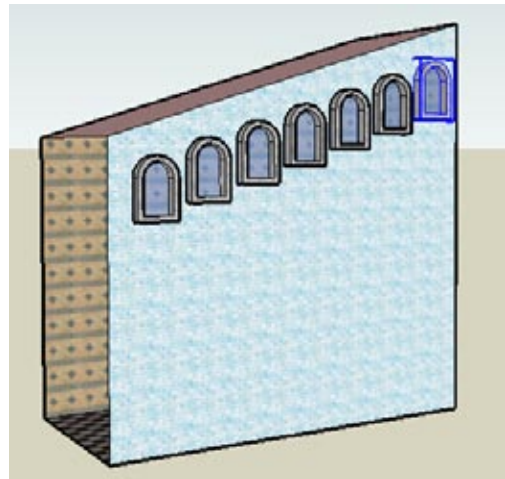

Figure 1-39
5. Enter 6/, or whatever number works for you, to get your internal array of windows (Figure 1-39). All of the copies now appear between the first and last windows.